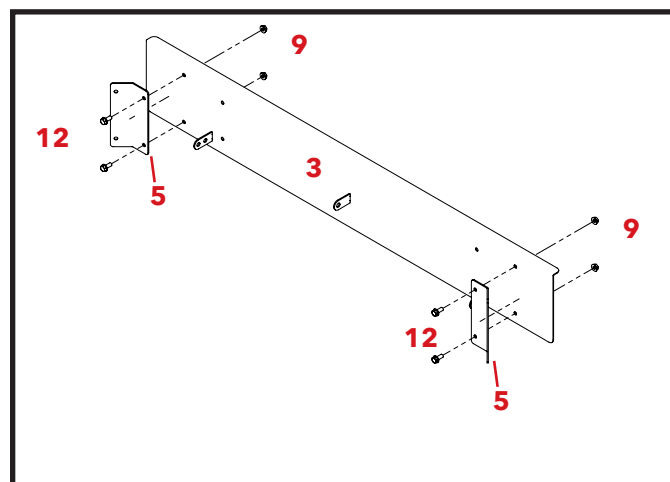

Figure 3
Attach two Panel Bolt Brackets (5) to the Front Panel Assembly (3) using the 5/16" x 3/4" flange bolts (12) and 5/16" flange nuts (9) provided. See Figure 3.